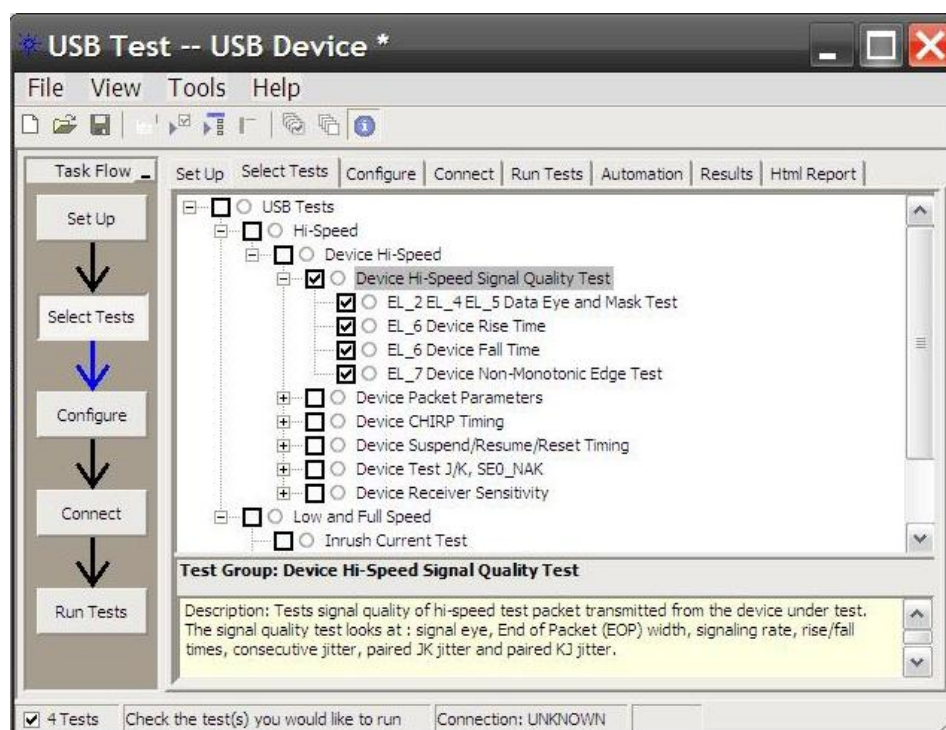

Figure 26. Device HS Signal Quality Test
1. Select the test items in the USB Automated Test software on the oscilloscope as shown in Figure 26, and make sure you set the test type configuration option to Hi-Speed Near End before running the test.